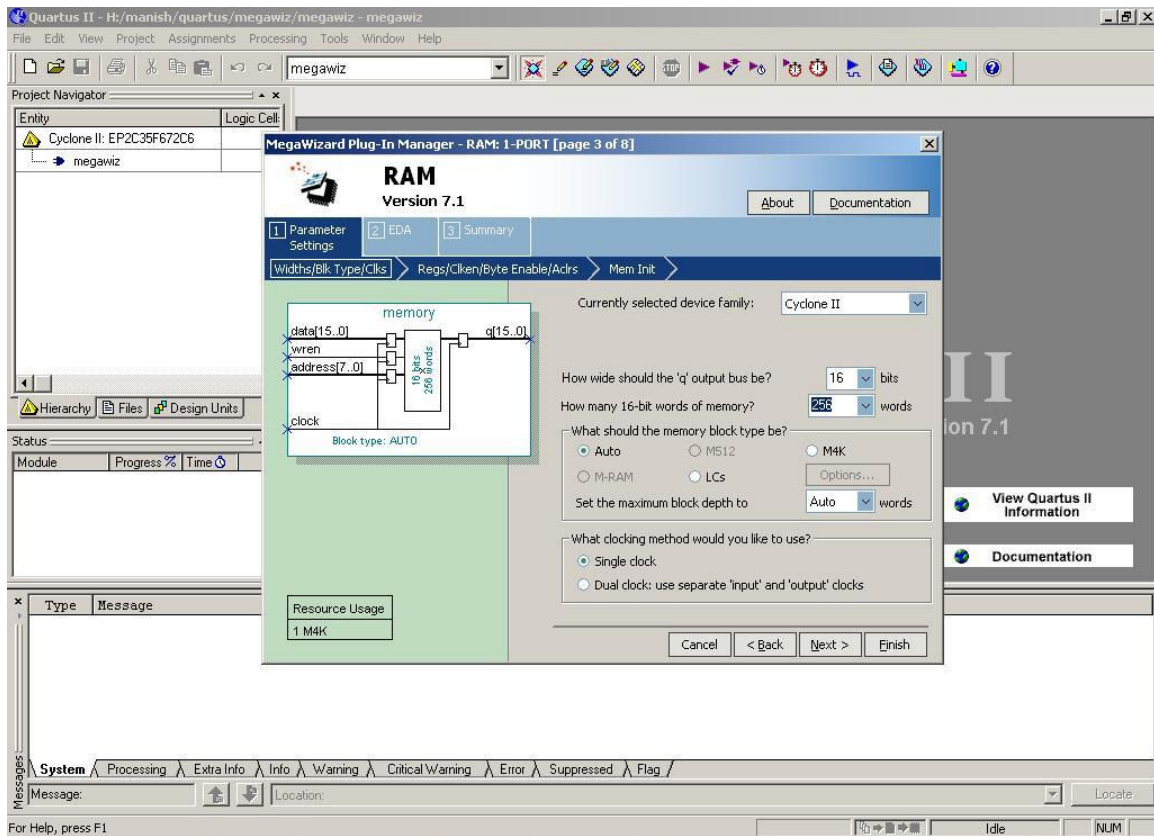

Fig. 3
- On page 3, 'q' output bus should be made 16 bits wide and the number of words can be selected as 8192 as shown in the Fig. 3. The number of words you are going to require depend on the length of your program. Though a 16 bit address line can access $2^{16} = 64K$ locations, we don't need this much memory. Then click "Next".